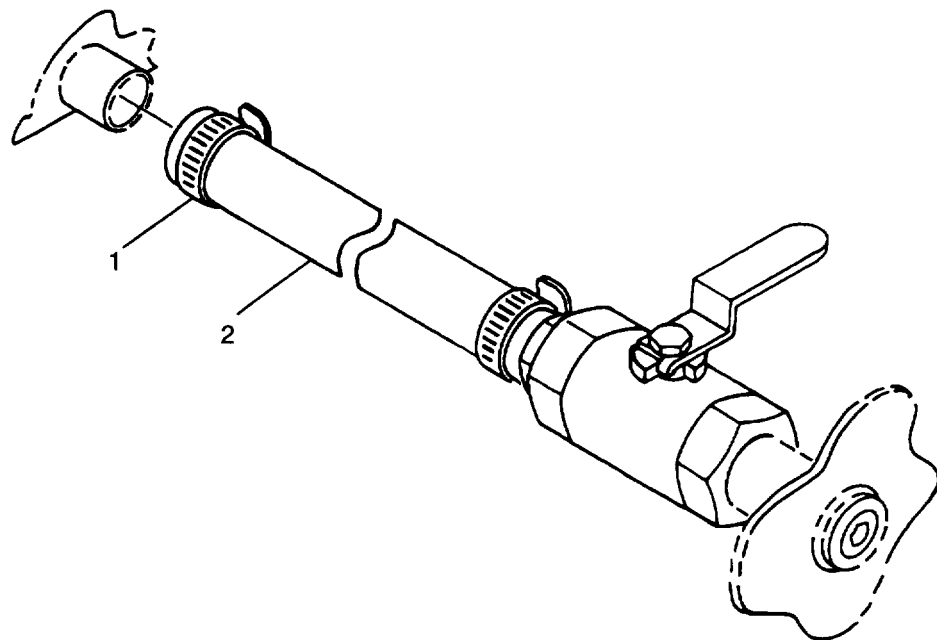
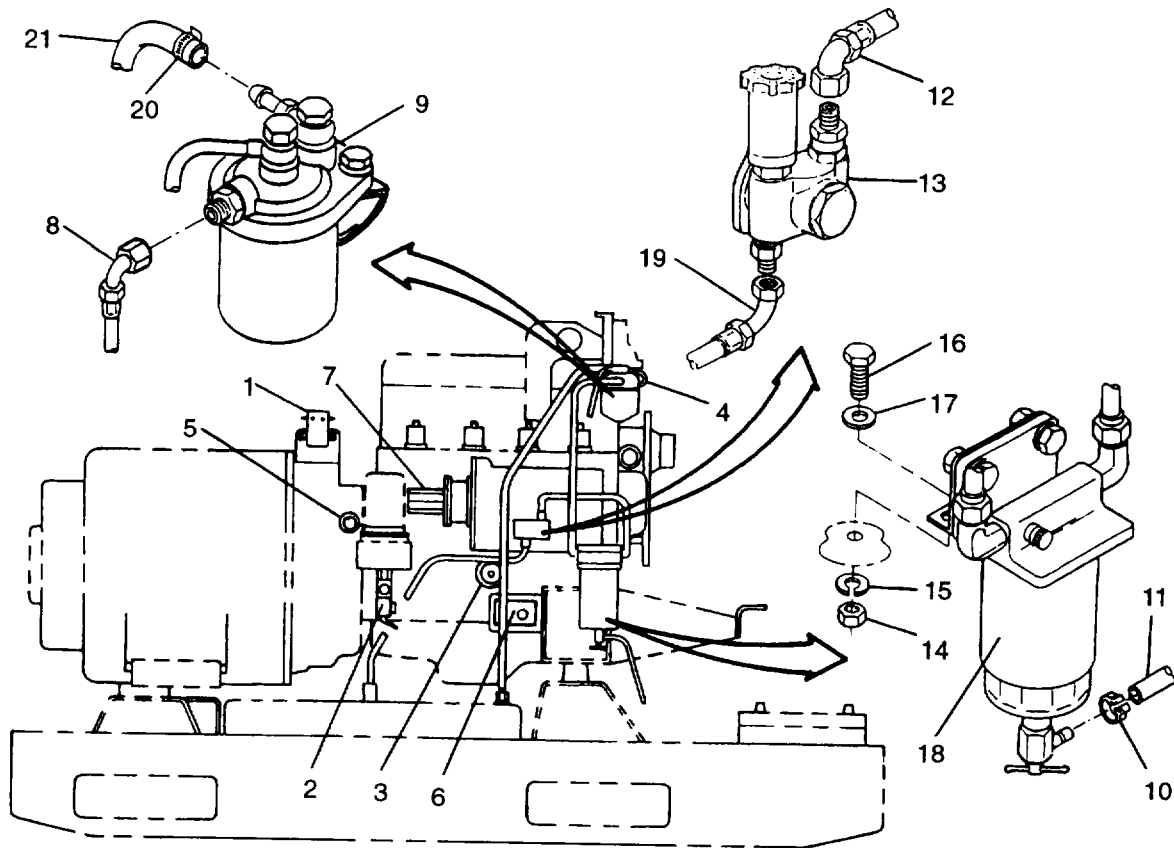
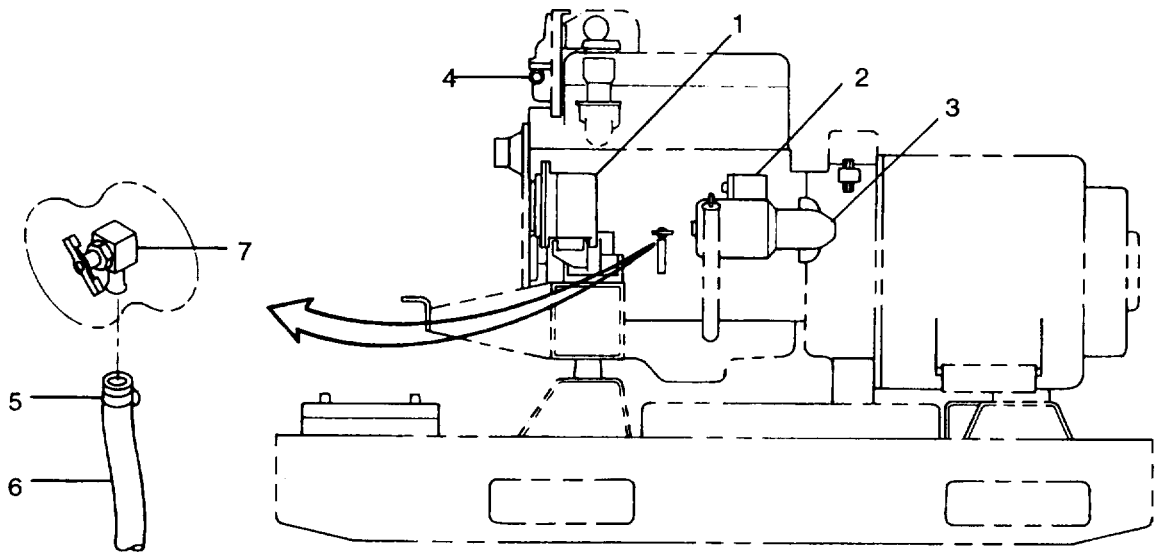
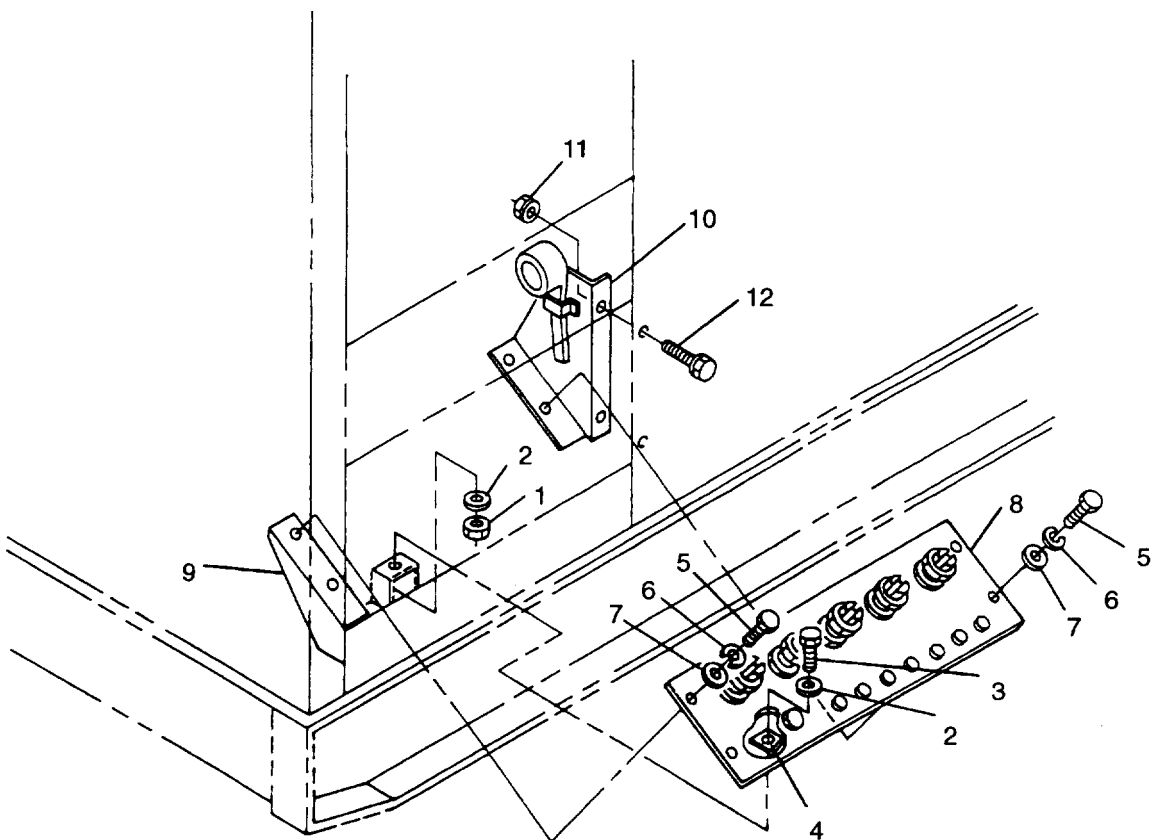

FIGURE 3-12. Oil Drain Line
FIGURE 3-13. Right Side Engine Components
FIGURE 3-14. Left Side Engine Components
FIGURE 3-15. Load Output Terminal Board
- ak. On right side of engine, tag and disconnect electrical leads from glow plug contactor (1, FIGURE 3-13), low oil pressure switch (2), oil pressure sender (3), coolant temperature sender (4), magnetic pickup (5), DEAD CRANK switch (6), and fuel injection pump governor actuator (7).
- al. Disconnect fuel line (8) from engine fuel filter (9). Cap openings.
- am. Remove clamp (10) and disconnect hose (11) from fuel filter/water separator assembly (18). Cap openings.
- an. Disconnect fuel line (12) from fuel transfer pump (13). Cap openings.
- ao. Remove nuts (14), lockwashers (15), bolts (16), washers (17), and fuel filter/water separator assembly(18) from engine.
- ap. Disconnect fuel line (19) from fuel transfer pump (13). Cap openings.
- aq. Loosen clamp (20) and remove fuel return line (21) from engine fuel filter (9). Cap openings.
- ar. On left side of engine, tag and disconnect electrical leads from battery charging alternator (1, FIGURE 3-14), starter solenoid (2), starter motor (3), and coolant high temperature switch (4). Move engine electrical harness to rear of generator set and clear of engine.
- as. Loosen clamp (5) and disconnect coolant drain hose (6) from engine block coolant drain valve (7).
- at. Remove nut (1, FIGURE 3-15), lockwashers (2), and bolt (3) securing ground strap (4) to skid base.
- h. Install bolts (42) and lockwashers (43), tightening bolts (42) slowly to ensure even and proper seating of generator housing lip to flywheel housing. Torque bolts (42) to 31 ft-lbs (42 Nm).
- i. Secure engine support bracket (5) to skid base with bolts (4), snubbing washers (3), washers (2), and nuts(1). Torque bolts (4) to 75ft-lbs(102 Nm).
- j. Align scribe mark on generator drive disc and engine flywheel, and install bolts (40) and lockwashers (41) securing generator drive disc to engine flywheel. Torque bolts (40) to 35 ft-lbs (47 Nm).
- k. Install screen/cover (39) on generator case with screw (38) and washer (37).
- l. Loosen nuts (23) and (27), adjust bolts (25) to obtain 0.5 inch (1 2.7 mm) minimum clearance with skid base. Torque nuts (23) and (27) to 150 ft-lbs (204 Nm).
- m. Install support (10, FIGURE 3-15) on right side panel with bolts (12) and assembled nuts (11).
- n. Install load output terminal board assembly (8) on supports (9) and (10) with bolts (5), lockwashers (6), and washers (7).
- o. Secure ground strap (4) to skid base with bolt (3), lockwashers (2) and nut (1).
- p. Position engine electrical harness and connect electrical leads to battery charging alternator (1, FIGURE 3-14), starter solenoid (2), starter motor (3), and coolant high temperature switch (4) on left side of engine. Remove tags.
- q. Connect coolant drain hose (6) at engine block drain valve (7) and tighten clamp (5).
- r. Remove caps and connect fuel line (19, FIGURE 3-13) to fuel transfer pump (13).
- s. Remove caps, connect fuel return line (21) and tighten clamp (20) at engine fuel filter (9).
- t. Install fuel filter/water separator assembly(18) on engine with bolts (16), washers (17), lockwashers (15), and nuts (14).
- u. Remove caps and connect fuel line(12) to fuel transfer pump (13).
- v. Remove caps, connect hose (11) and install clamp (10) at fuel filter/water separator assembly (18).
- w. Remove caps and connect fuel line (8) to engine fuel filter (9).
- x. Connect electrical leads to fuel injection pump governor actuator (7), DEAD CRANK switch (6), magnetic pickup (5), coolant temperature sender (4), oil pressure sender (3), low oil pressure switch (2), and glow plug contactor (1). Remove tags.
- y. Connect oil drain hose (2, FIGURE 3-12) to engine oil pan and tighten clamp(1).